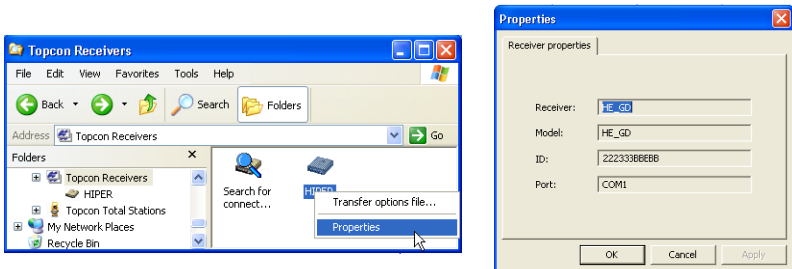

Figure 5-3. Receiver Properties
5. To view information about the receiver (Figure 5-3), right-click the receiver, and select the *Properties* option.